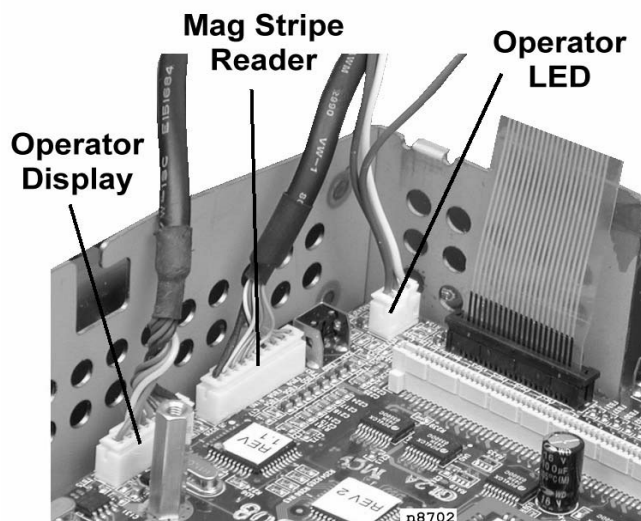

Figure 2-23: Installing the Top Cover Cables
- Connect the remaining top cover cables as shown in Figure 2-23.